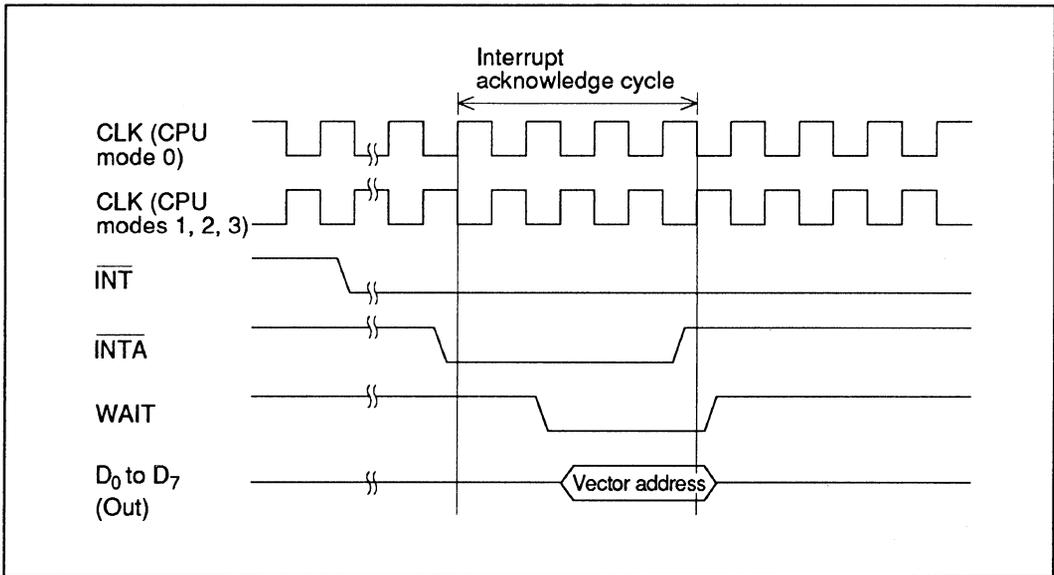

Figure 4-2 Timing Sequence of Single Acknowledge Cycle
2. Single acknowledge cycle: The IVR or IMVR contents are output on the data bus at the first active (low) $\overline{\text{INTA}}$ input (figure 4-2).